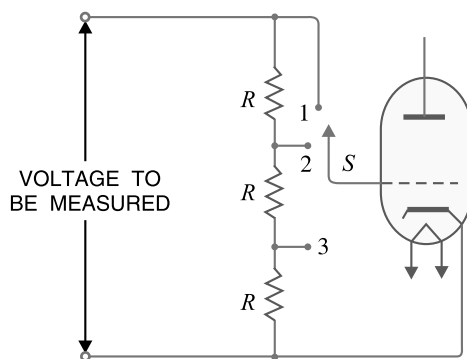

Fig. 20.16
**Range selection.** In practice, a *VTVM* is made a multirange instrument by employing a potentiometer at the input circuit as shown in Fig. 20.16. By throwing the range selector switch  $S$  to a suitable position, the desired voltage range can be obtained. Thus when the range selector switch  $S$  is thrown to position 1, the voltage applied to the grid is three times as compared to position 3. Although only three voltage ranges have been considered, a commercial *VTVM* may have more ranges.